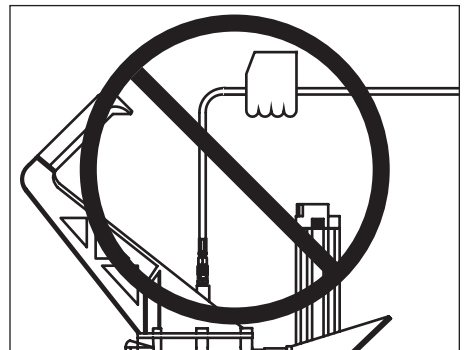

Figure 3 - Do not carry the nailer by the air hose
**▲ WARNING** Never carry the nailer by the air hose or pull the hose to move the nailer or a compressor. Keep hoses away from heat, oil and sharp edges. Replace any hose that is damaged, weak or worn. Personal injury or tool damage could occur. See Figure 3.